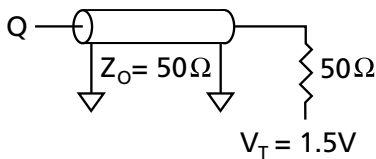
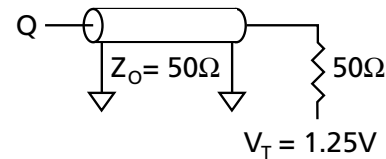

Figure 1
Figure 3
3. Test conditions as specified with output loading as shown in Figure 1 for 3.3V I/O ($V_{DDQ} = +3.3\text{V} \pm 0.165\text{V}$) and Figure 3 for 2.5V I/O ($V_{DDQ} = +2.5\text{V} +0.4\text{V}/-0.125\text{V}$).
Output load	See Figures 1 and 2
Output load	See Figures 3 and 4